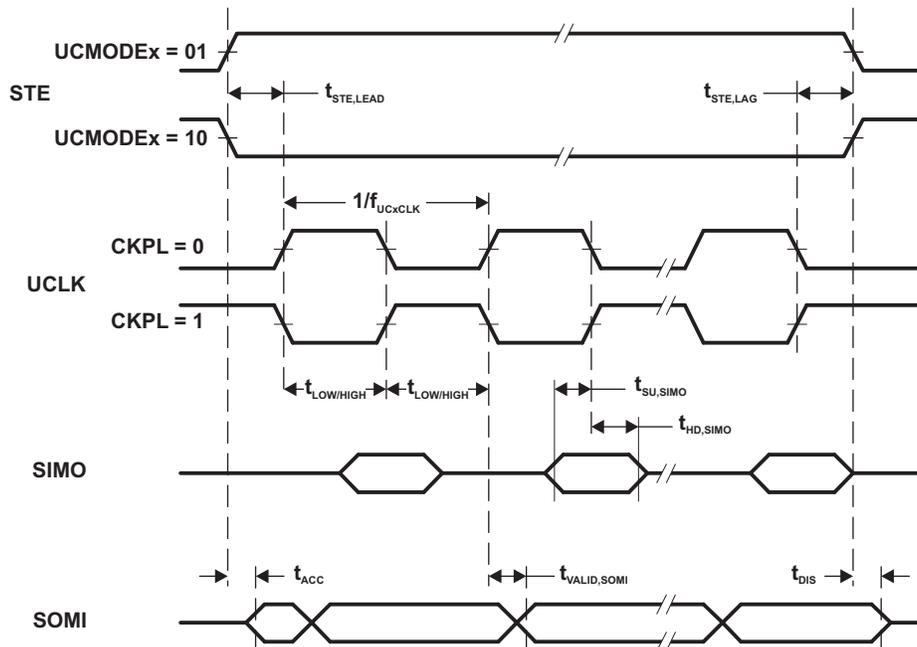
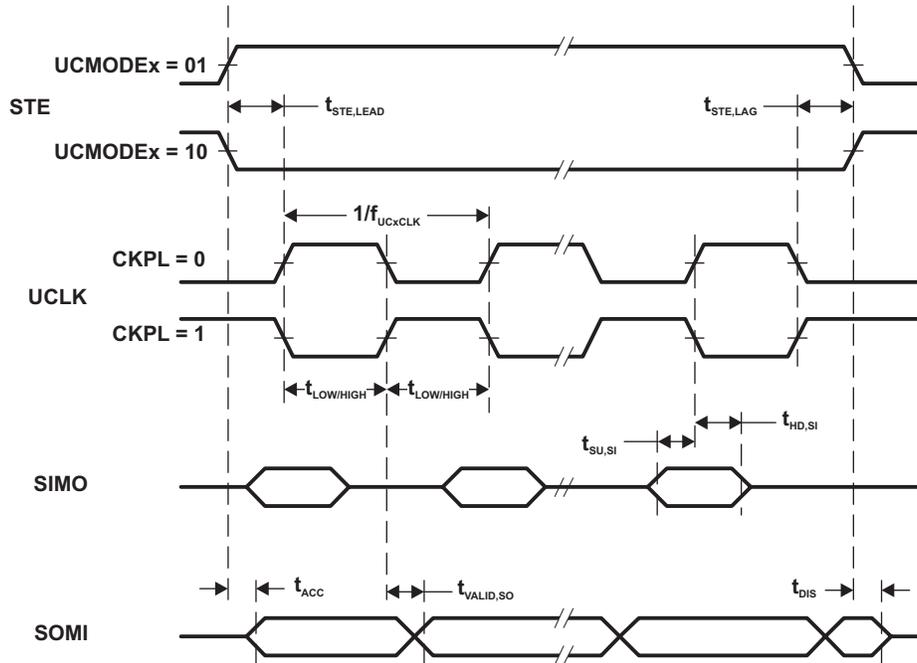

Figure 5-13. SPI Slave Mode, CKPH = 0
Figure 5-14. SPI Slave Mode, CKPH = 1
- (1) $f_{UCxCLK} = 1/2t_{LO/HI}$ with $t_{LO/HI} \geq \max(t_{VALID,MO(Master)} + t_{SU,SI(eUSCI)}, t_{SU,MI(Master)} + t_{VALID,SO(eUSCI)})$. For the master's parameters $t_{SU,MI(Master)}$ and $t_{VALID,MO(Master)}$ refer to the SPI parameters of the attached slave.
- (2) Specifies the time to drive the next valid data to the SOMI output after the output changing UCLK clock edge. See the timing diagrams in Figure 5-13 and Figure 5-14.
- (3) Specifies how long data on the SOMI output is valid after the output changing UCLK clock edge. See the timing diagrams in Figure 5-13 and Figure 5-14.